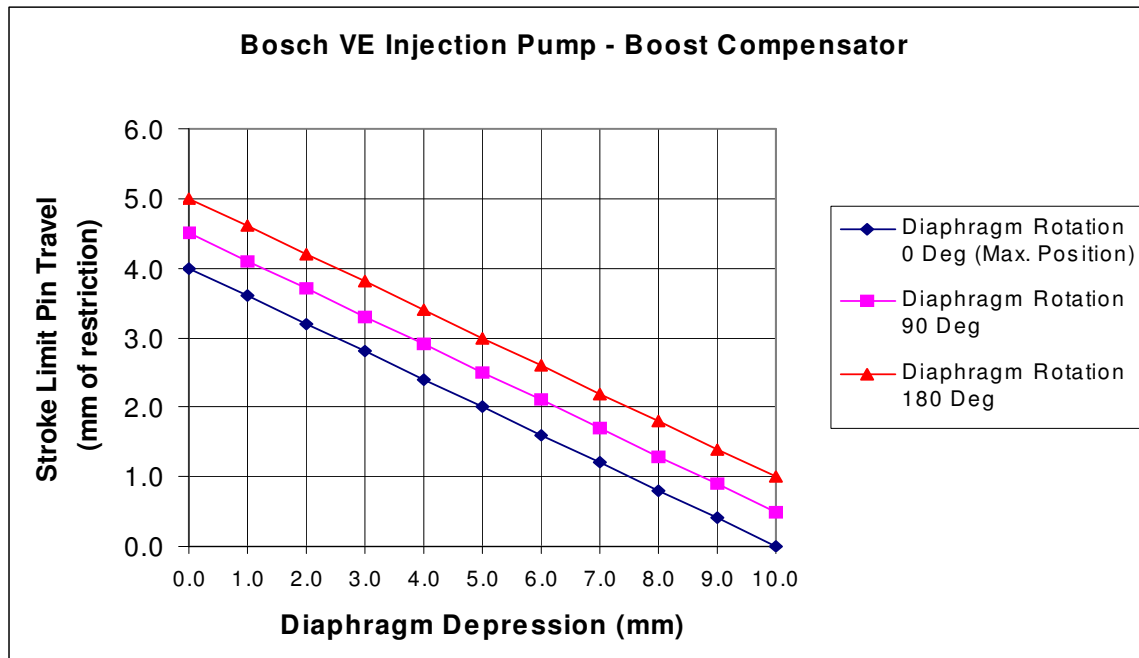

Figure 5
1.6. The chart, Figure 5, shows the approximate relationships between the diaphragm rotational position and it's effect on stroke limit pin position. *[The dimensions listed are approximations to the nearest millimetre from measurements taken from my 13H assembly and should not be taken as precise nor completely accurate.]*
Therefore, as shown in Figure 5, the stroke limit pin will move about 4.0mm as the diaphragm/control cone moves downward over it's 10.0mm of travel. This 4.0mm of travel may be varied from the '0.0 to 4.0mm' range to the '1.0 to 5.0mm' range by rotating the diaphragm up to 180 degrees from the 'maximum' position. As the diaphragm/control cone is symmetrical, it doesn't matter which way it is rotated from the 'maximum' position. Also note that 180 degrees of rotation ($\frac{1}{2}$ turn) represents the full range of adjustment available.